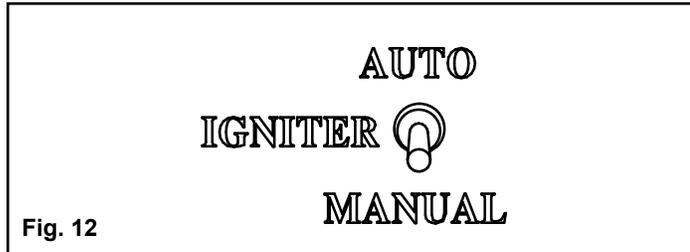

Fig. 12
1. Flip the Igniter Switch Down into the "MANUAL-LIGHT" position. See Fig. 12.